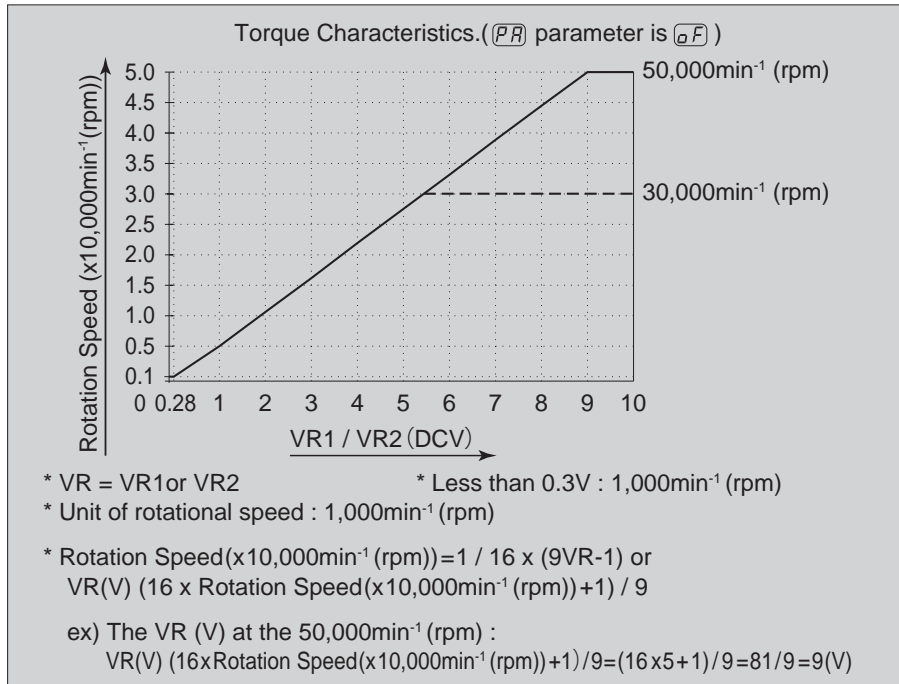
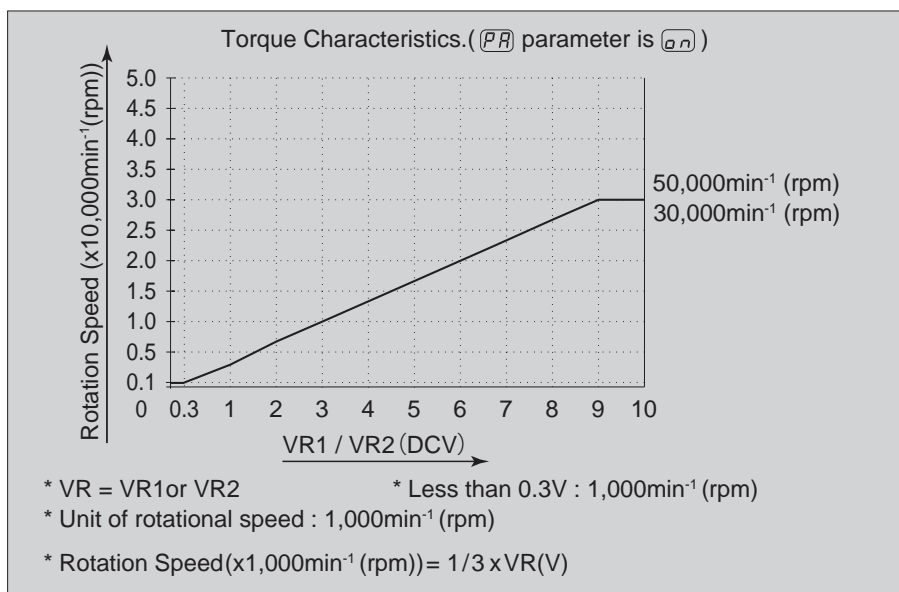

Fig. 34
Fig. 35
- The Fig. 34 are Characteristics of the Motor Speed Control Voltage Signal and rotation speed by parameter (PR) set to (0F). The Fig. 35 are Characteristics of the Motor Speed Control Voltage Signal and rotation speed by parameter (PR) set to (0n).